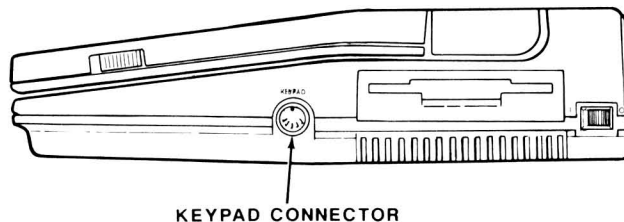
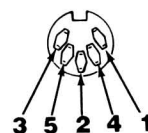

Figure 12-9. Right Side View
Figure 12-10. External Keypad Connector
**External Keypad Connector** — This connector is located on the right side of the computer, as shown in Figure 12-9. The external keypad connector supplies the necessary power and signal lines for an external numeric keypad. Refer to Figure 12-10 and Table 12-6 for the pinout.